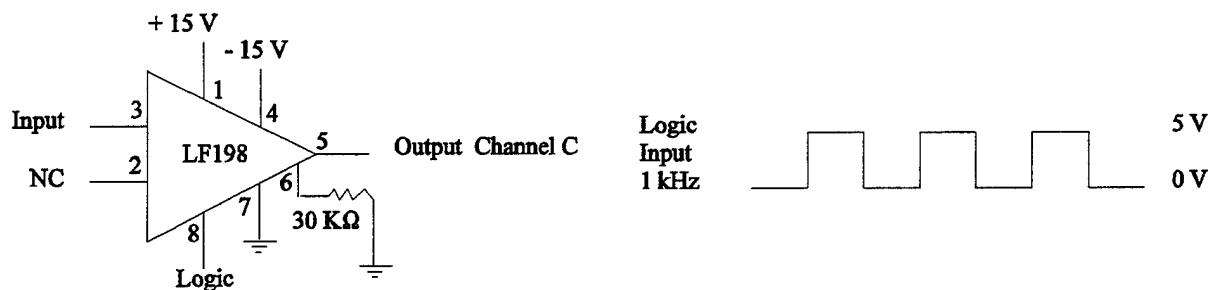

Figure 1
a) Construct the circuit of Figure 1. You will need to connect a ground bus, a + 15 volt bus and a - 15 volt bus on your bread board from the power supply. The ± 15 volt busses will provide power to your chips. When the circuit is fully connected, measure the ± 15 volts on the DMM before connecting them to the breadboard. Turn the power supply off. Connect your ground and power. Turn the supply back on.